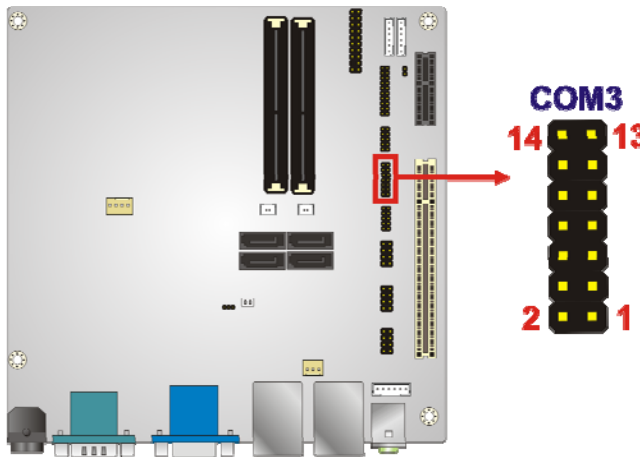

Figure 3-17: RS-232/422/485 Serial Port Connector Location (RS-232+RS422/485)
- CN Location:** See **Figure 3-17**